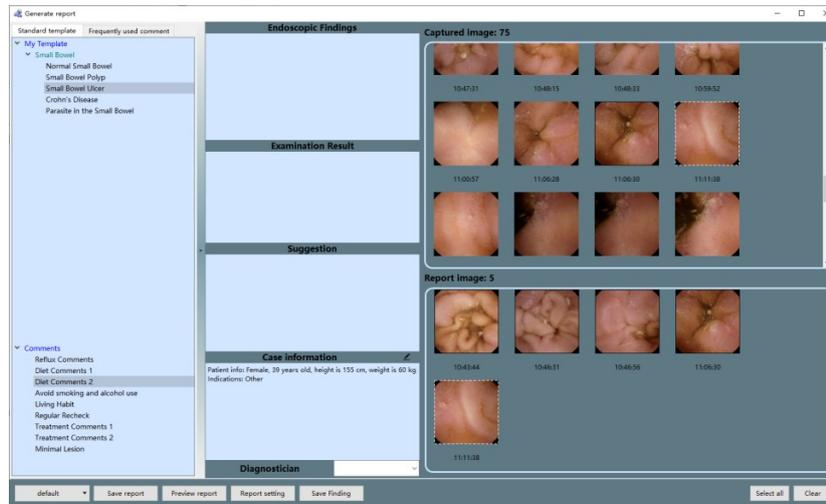

Figure 4-53: Select Images for Report
2. Move the mouse over the captured image area and double click to select images. The selected images will then be added to the report image area. Double click on images in report image area to remove them. The “Select all” or “Clear” buttons can be used to select all captured images for report or remove all images from report (Figure 4-53).